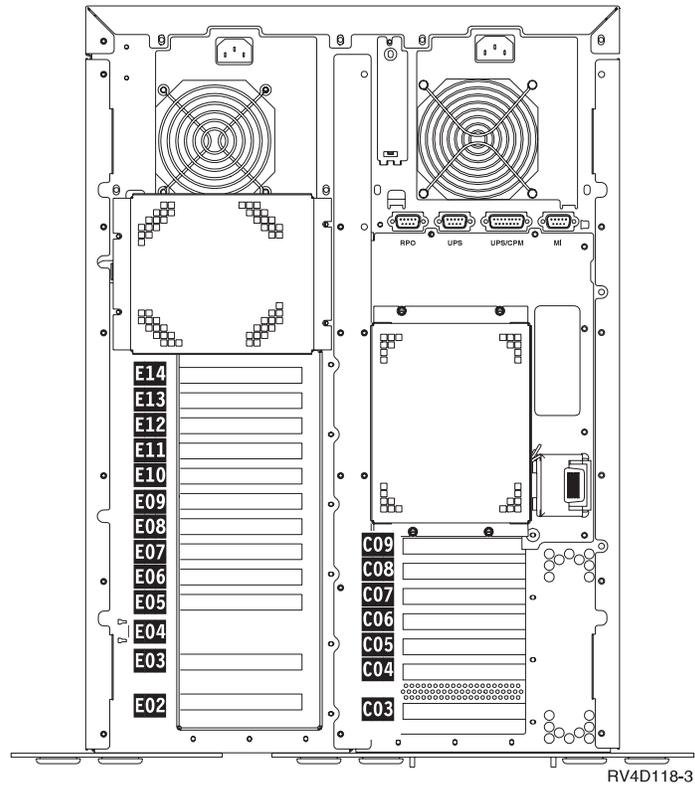

Figure 3. Card Locations
1. 286x memory is installed on the 285x or 2866 Integrated NetFinity Server card. Your system unit can have one or two Server cards. Position **C02** is the location of the Server card in the base unit. Position **E04** is the location of the Server card in the expansion unit (Figure 3 on page 5).